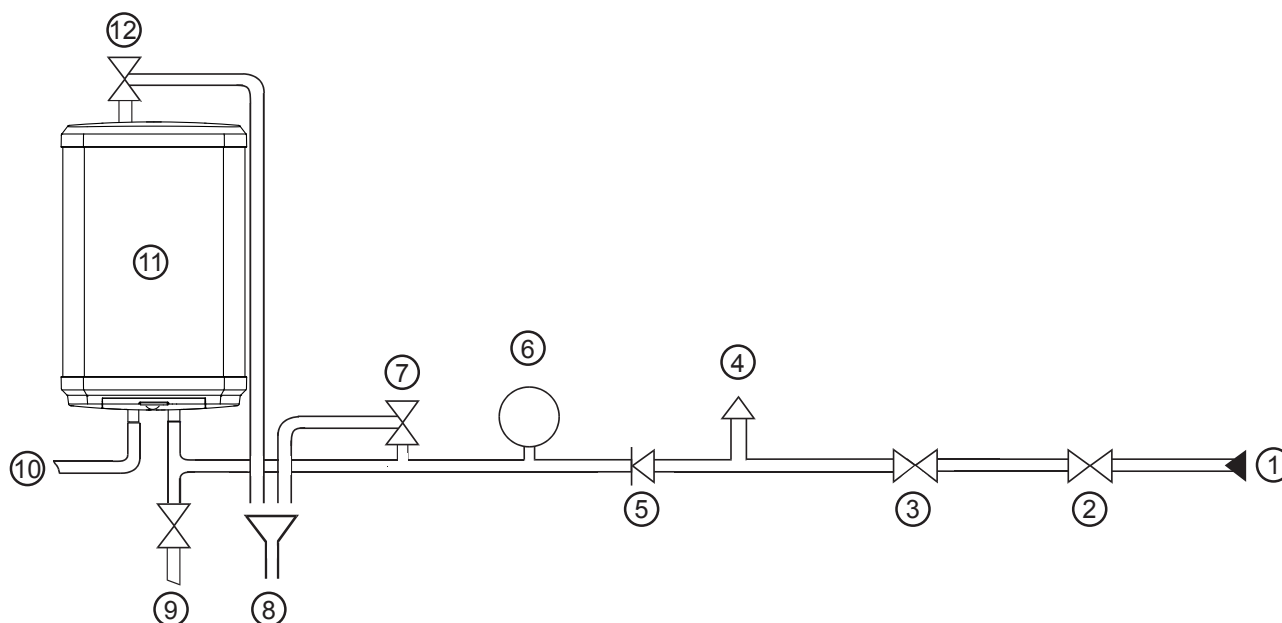

Figure 6: Typical installation - schematic (not to scale)
Refer to the installation schematic (figure 6, page 11) for details on the pipework layout. Specific details for the discharge pipework layout is also provided in figure 7 on page 14.
- ▶ A stopcock or servicing valve must be incorporated into the cold water supply to enable the appliance and its associated controls to be isolated and serviced. See Figure 6, page 11 for position.